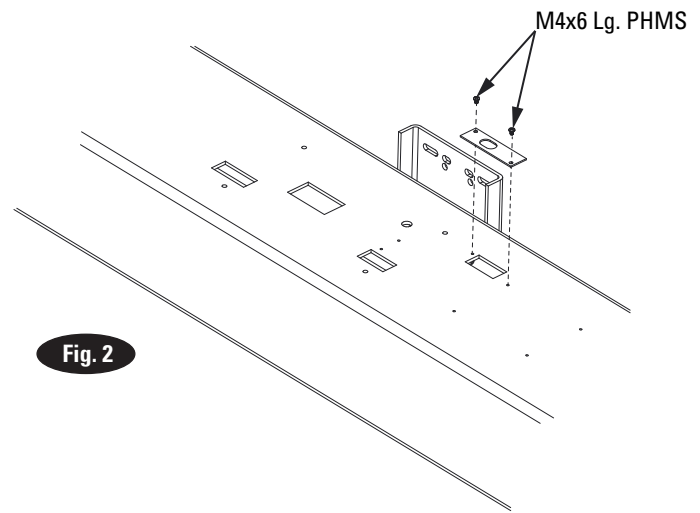

Fig. 2
**2. Power Unit Tee Cover Plate:** While power unit column is laying on the ground, install the cover plate using (2) M4x6 Lg. PHMS Fig. 2.